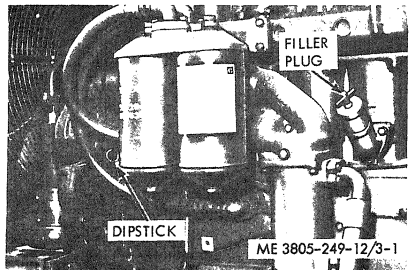

Figure 3-1. Engine oil service.
- With the grader level and the engine running and hot, remove the dipstick (fig. 3-1) and check the oil level. Add oil as necessary to maintain the level between ADD and FULL on the hot check side of the dipstick.